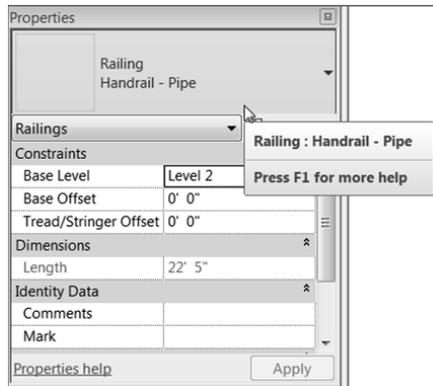

FIGURE 10.49: Setting the landing handrail type
2. In the Type Selector, change the type to Handrail – Pipe, as shown in Figure 10.49.